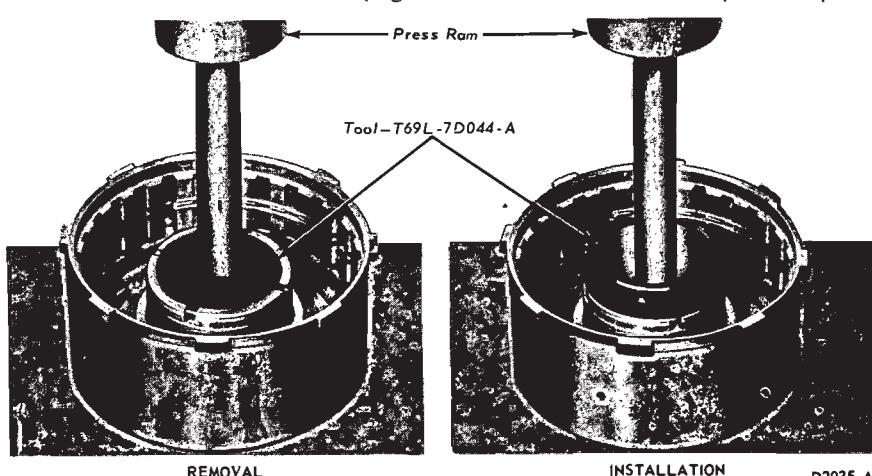

FIG. 48—Replacing Reverse-High Clutch Rear Bushing
To remove the rear bushing, use the tool shown in Fig. 48, and press the bushing from the drum.
1. If the clutch drum bushings were removed, position the drum in a press and press new bushings into the drum with the tools shown in Figs. 48 or 49.